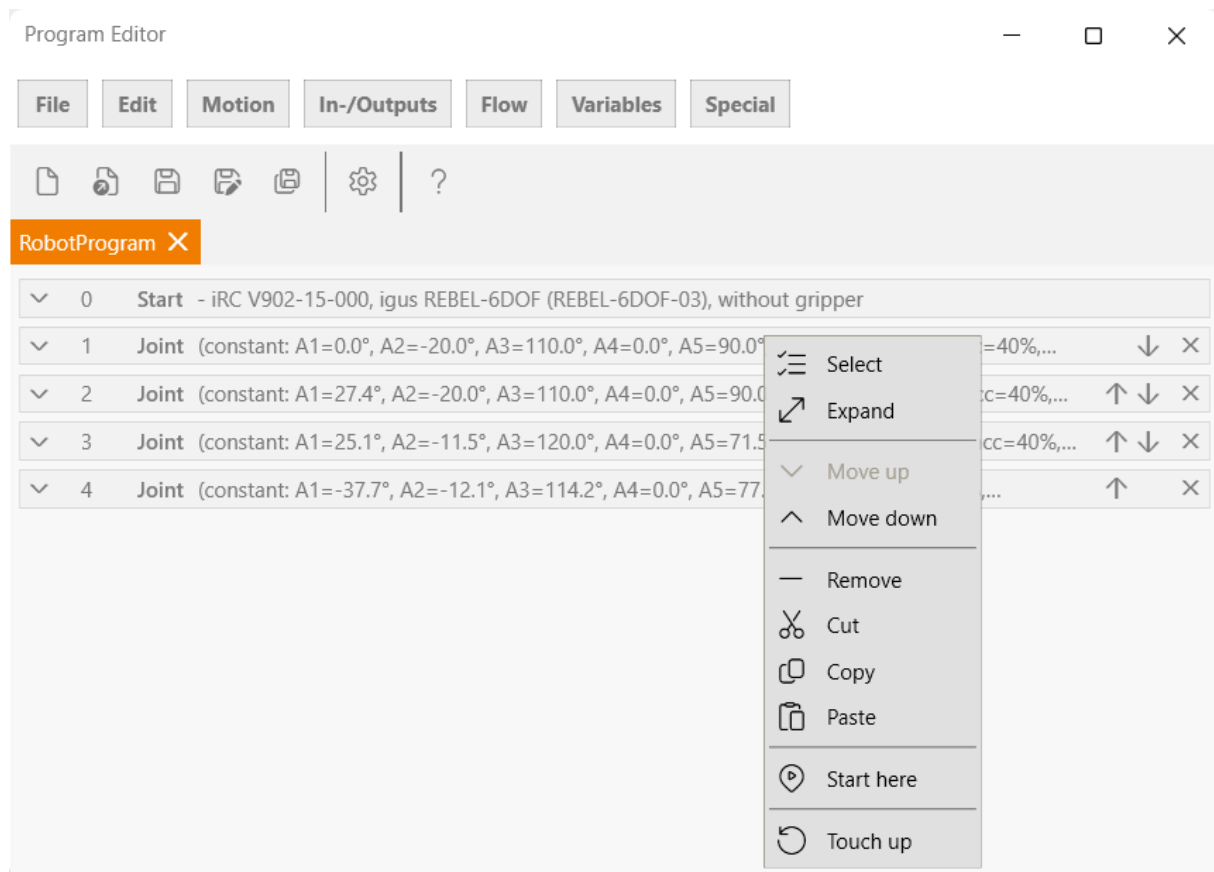

Figure 40: The context menu of a command
To move a command, use the arrows on the right side of the command line. Alternatively, you can click "Down" or "Up" from the command context menu (see Fig. 40).
- Open the context menu by right-clicking on the command and click on "Touch Up!" (see Fig. 40).
To select a specific command as the starting point for execution, click on "Start Here" in the context menu (see Fig. 40).